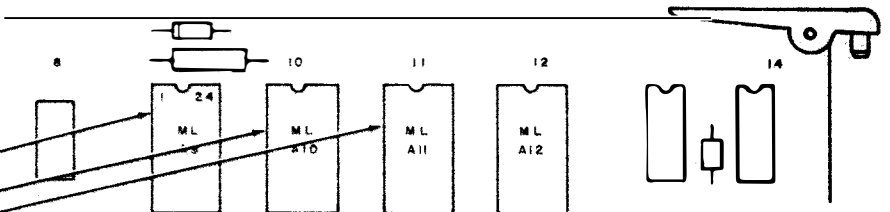

Fig. 5 -- ROM Pack Installation for the 406328 Modification Kit
- ① Install the ROM packs (Fig. 5) in the respective plated through holes. Make sure all of the pack pins are inserted into the plated through holes and are not bent under. Use caution when inserting the packs because undue force could fracture the case and/or break off the pack pins. Make sure the index mark on the packs are toward the top of the card. (Pin 1 is in the upper left hand corner.)